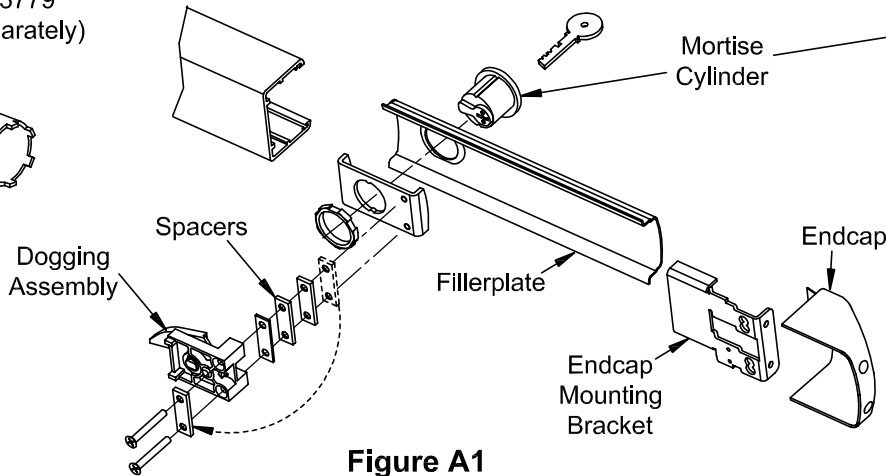

Figure A1
- Remove and discard shipping insert and nut. Loosen (2) screws from dogging assembly.
- Trial fit dogging assembly. If cylinder is too short, remove spacers as necessary and reattach them under the (2) screw heads (See Figure A1). Fasten the (2) screws to the rest of the assembly.